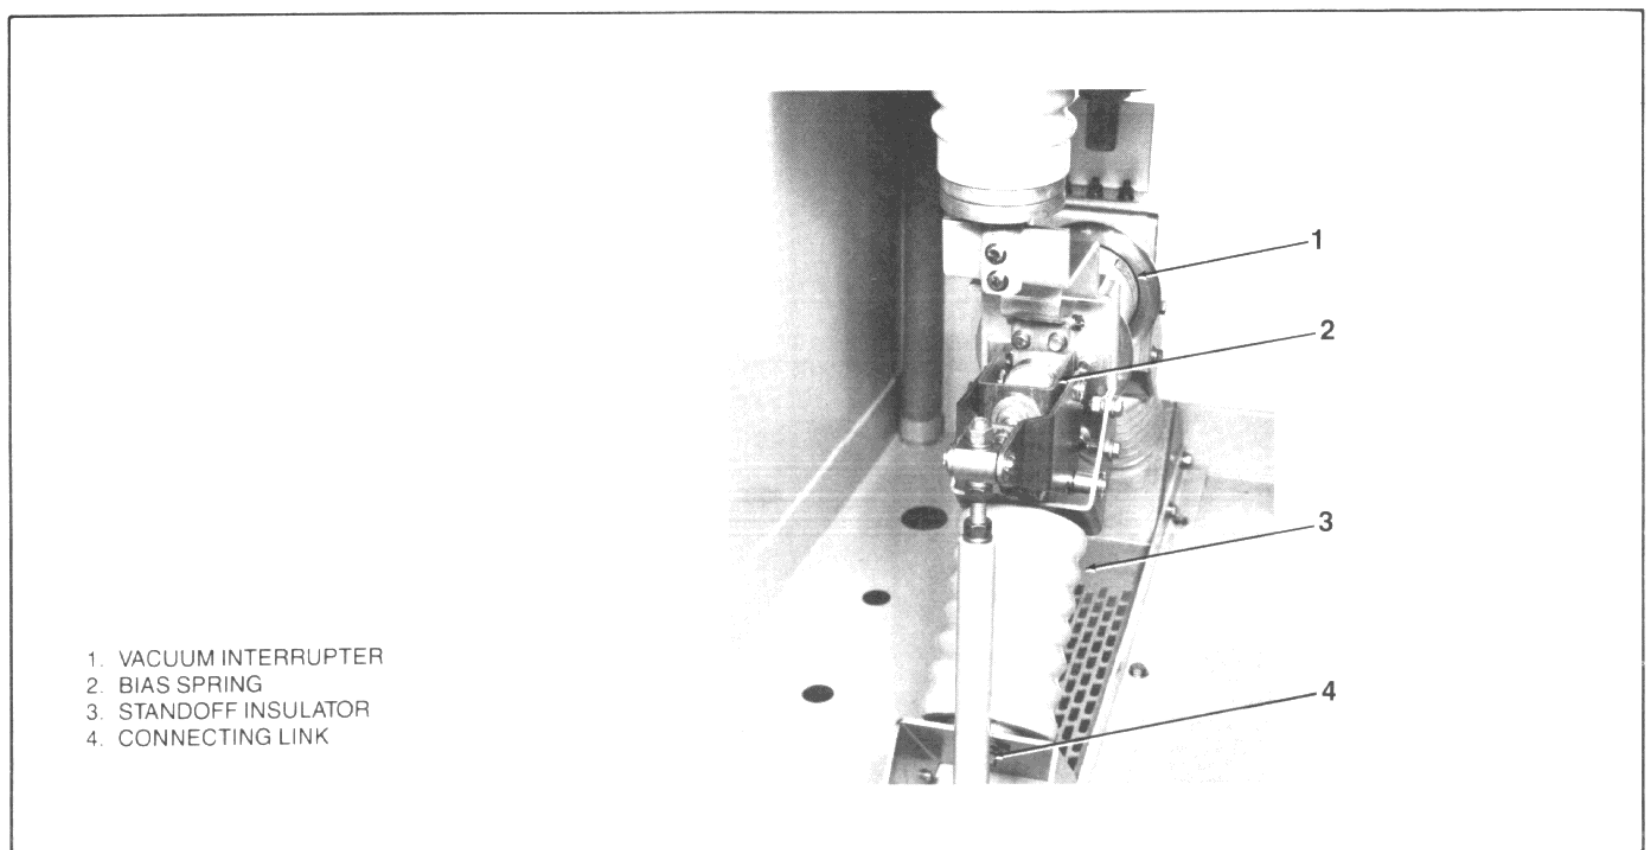

Figure 2
- b) Use a clean, dry cloth to remove dirt and moisture that may have collected on the outside of the vacuum interrupters (Figure 2, 1) and on all insulating parts.
Interruption in the FVB series of vacuum circuit breakers is performed by the vacuum interrupters (Figure 2, 1) mounted horizontally within the high voltage compartment. Consisting of a pair of butt contacts, one movable and one fixed, hermetically sealed in a high vacuum, these